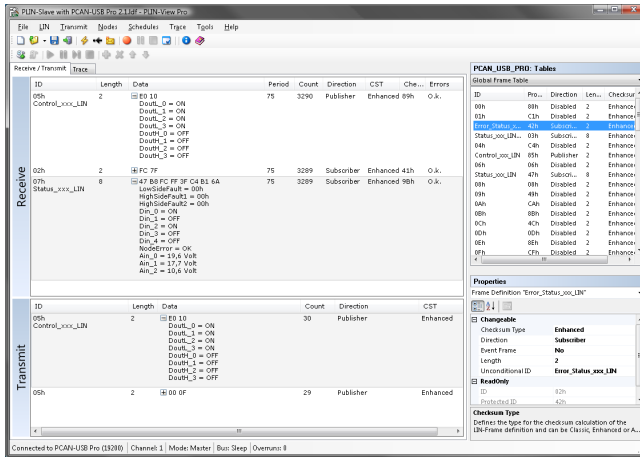

Figure 23: Receive/Transmit tab
6. Confirm the settings in the dialog box with **OK**. The main window of PLIN-View Pro appears (see Figure 23).